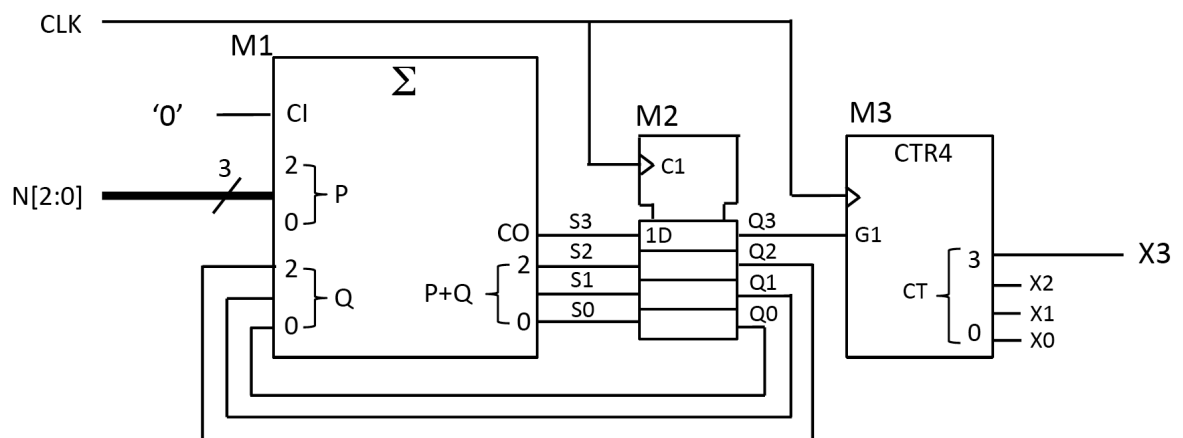

Figure 2.1
2. Figure 2.1 shows a clock divider circuit consisting of a 3-bit adder M1, a 4-bit register M2 and a 4-bit counter M3. The counter M3 increments on the rising edge of the clock CLK if Q3 is high. The clock frequency is 50MHz.